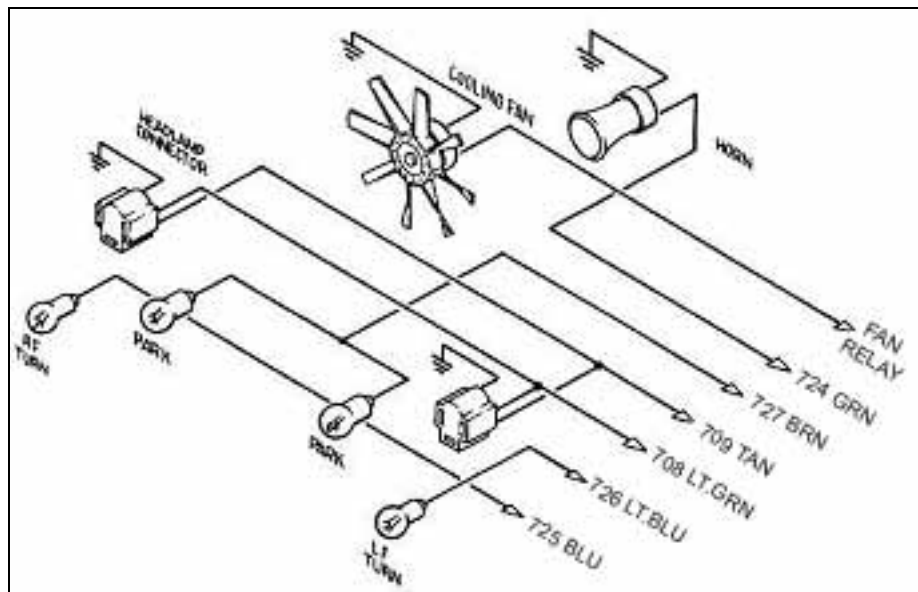

Figure 9-5B HEADLIGHT SECTION A Wiring
9.5 HEADLIGHT SECTION A. See Figure 9-5B.
Note: The wire connected to the fan in Figure 9-5B will need to come from a fan relay output terminal. Wire #701 (gry/wht) from the ACCESSORY SECTION SWITCHES is an activation wire for a fan relay only. It will NOT power an electric fan by itself.